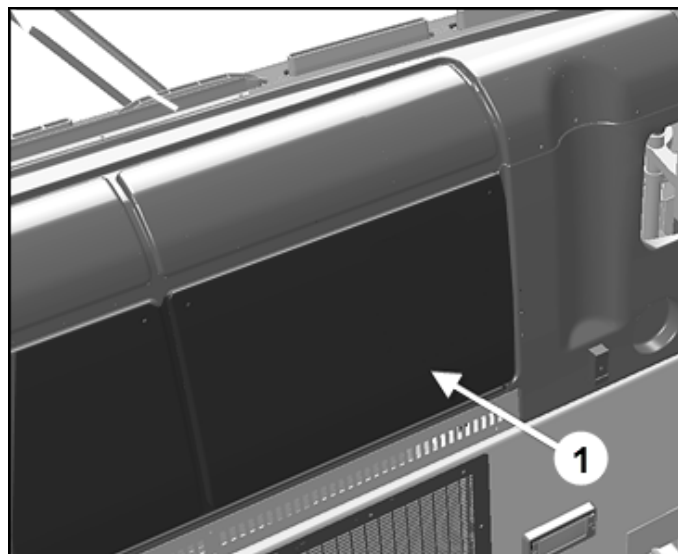

FIGURE 1
1. Remove the dashboard access panel (item 1, figure 1).